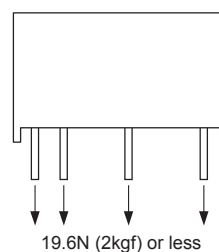

Fig.6.1 Stress onto Pins
■ Applying excessive stress to the input or output pins of the power module may damage internal connections. Avoid applying stress in excess of that shown in Fig. 6.1.